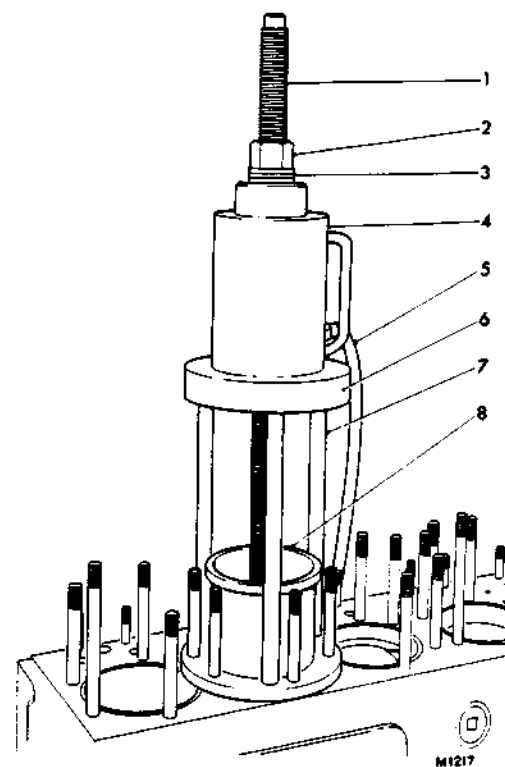

FIG. 1. TYPICAL ARRANGEMENT FOR EXTRACTING CYLINDER LINER
7. Screw the three long pillars into the ram support plate. Position the pillars and plate on top of the protection ring and place the hydraulic ram and thrust race on top of the support plate, as shown in Fig. 1.